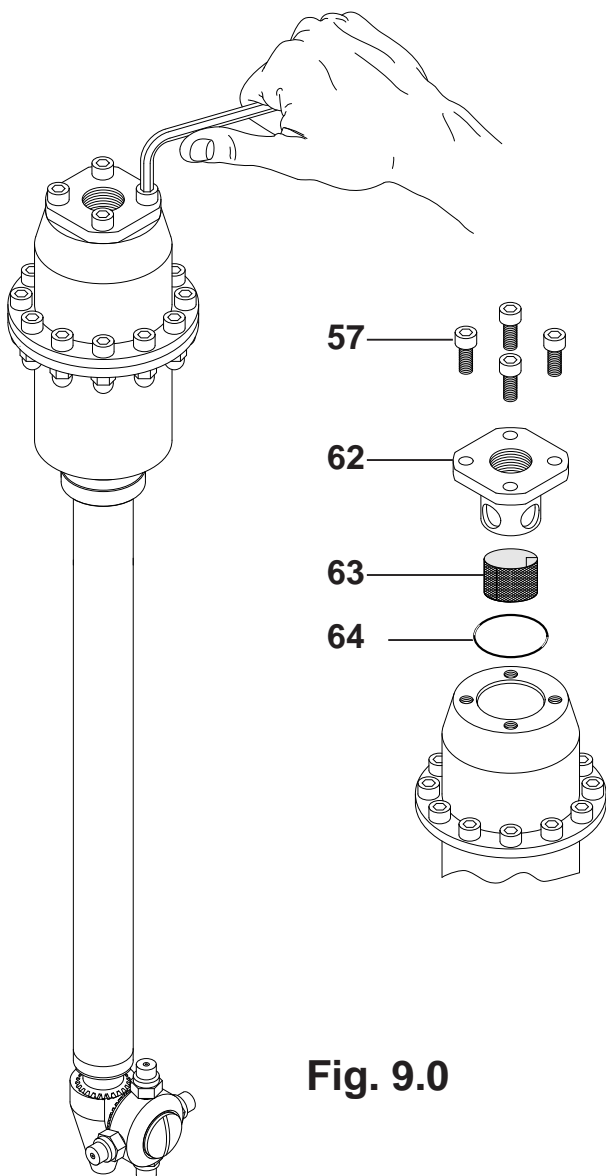

Fig. 9.0
9.1.1) Unscrew and remove the screws pos. 57, disassemble the filter holder flange pos.62 and remove the cartridge pos. 63 (Fig.9.0).